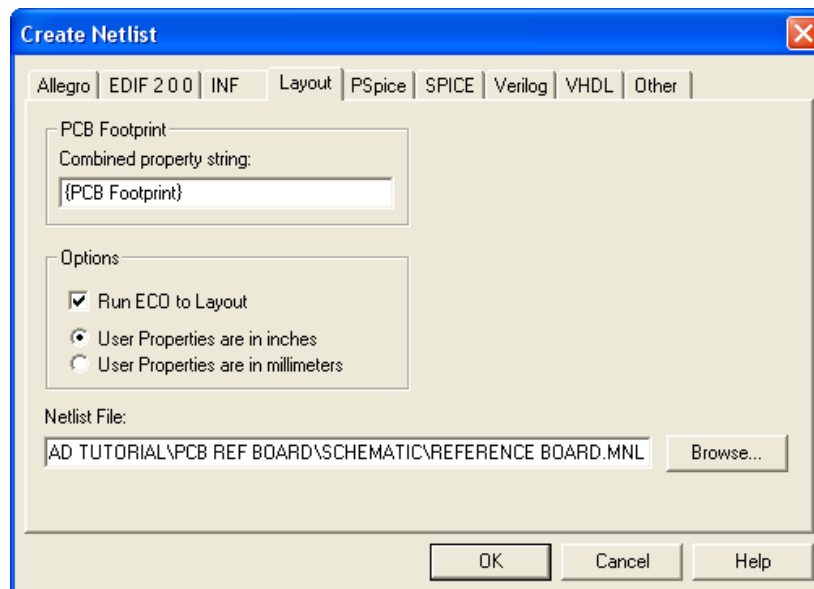

Figure 5.1: Creating the Netlist
5. Click → **Tools | Create Netlist**, Select tab → **Layout**, Click → **OK** (See Figure 5.1)